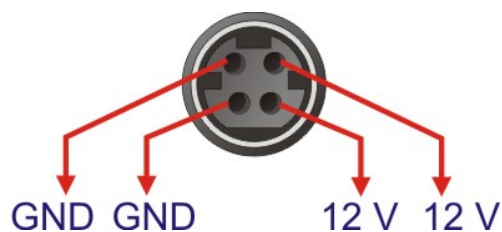

Figure 3-34: 4-pin Power Mini-DIN Connection
- CN Pinouts:** See **Figure 3-34**